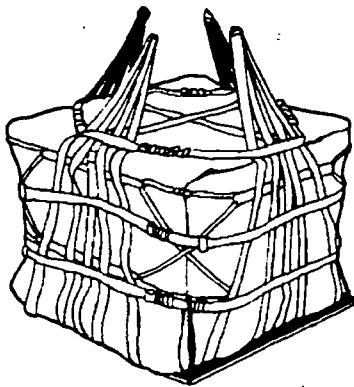

Figure 1-5. Fastening Upper Lateral Straps
Step 8 - Fasten the upper lateral straps in the same manner as in step 7 (Figure 1-5). If the load is not high enough for the upper lateral straps to go around the load, pull the suspension webs to their full height, and fasten the upper straps diagonally across the top corner of the load. Strap fasteners should be tightened to within 4 to 5 inches of the upper lifting legs.